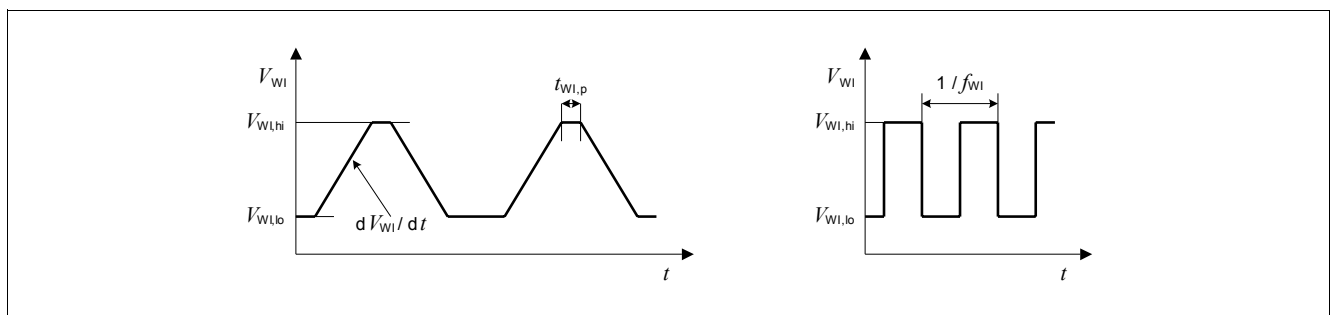

Figure 11 Test Pulses Watchdog Input WI
The watchdog is triggered by an positive edge at the watchdog input “WI”. The signal is filtered by a bandpass filter and therefore its amplitude and slope has to comply with the specification Item 8.2.10 to Item 8.2.14. For details on the test pulse applied, see Figure 11.
- 2) For details on the test pulse applied, see Figure 11.